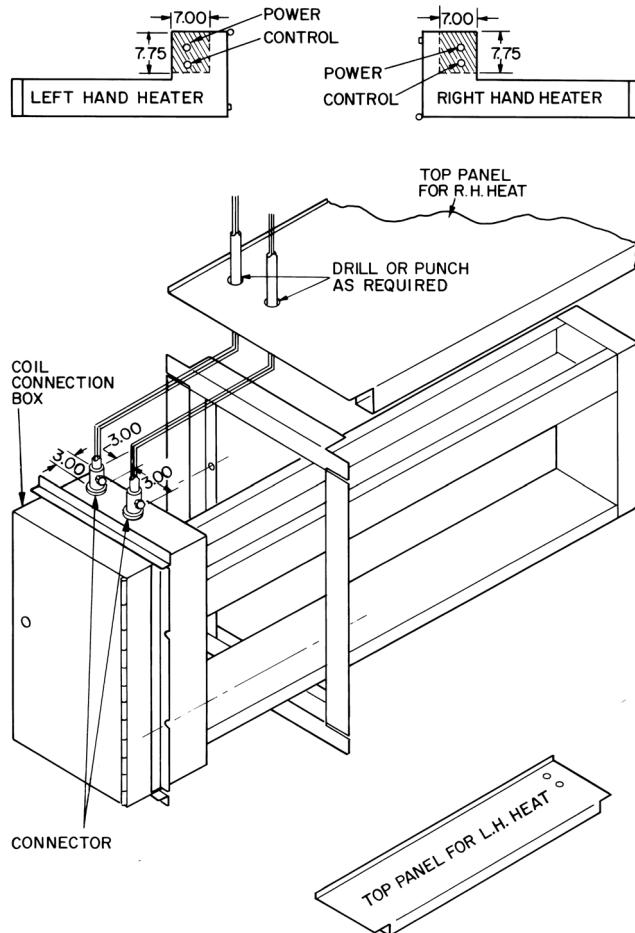

Fig. 59 — Electric Heater Installation
To install electric heater, refer to Fig. 59 and proceed as follows:
4. Remove top panel of the preheat-electric section and drill or punch 2 holes are specified in Fig. 59.